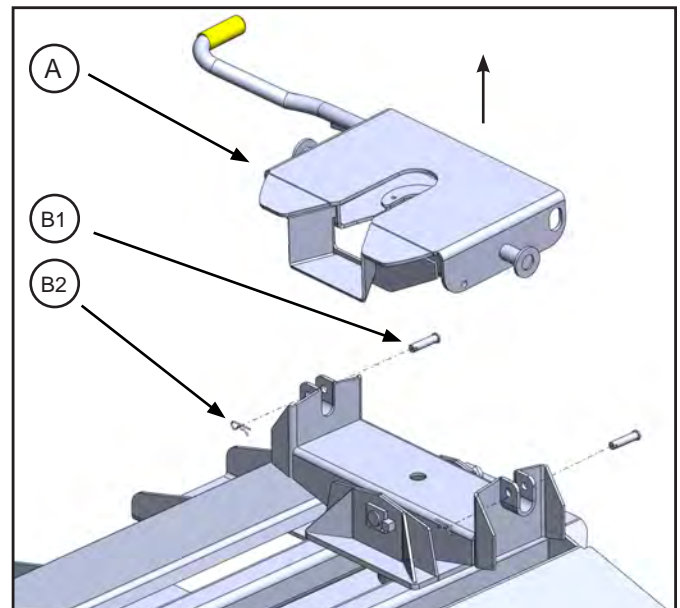

Figure 1
1. Remove the 5th Wheel Plate Assembly {A} of the hitch by pulling the clip {B2} and pin {B1} from either side of the plate (see Figure 1). Set parts aside for reassembly in later steps.